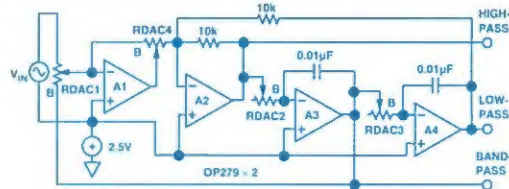

Figure 4. Programmable state-variable active filter.
**Active filter:** The state-variable filter circuit can simultaneously exhibit low-pass (LP), high-pass (HP), and bandpass (BP) filter characteristics; it is an analog computing circuit solving a second-order differential equation. Digital pots and resistors can be used instead of DACs to program frequency, gain, and Q (Figure 4).1 The filter circuit uses a +2.5-V virtual ground, which readily allows up to 4-V p-p input and output swing for each stage.